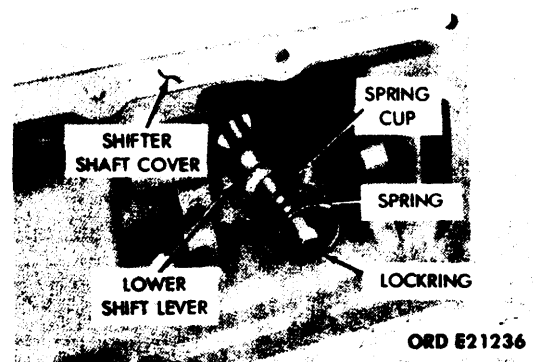

Figure 3-46. Removal of Lower Shift Lever, Lever Spring, and Spring Cap.
(6) Remove the lower shift lever, locking, spring, and spring cup. (See fig. 3-46.) Slide the shifter shaft lever through the shifter shaft cover.
(2) Slide the lower shift lever into cover at fulcrum pivot pins. Install lower shift lever, cup, spring, and lockring. (See fig. 3-46.)